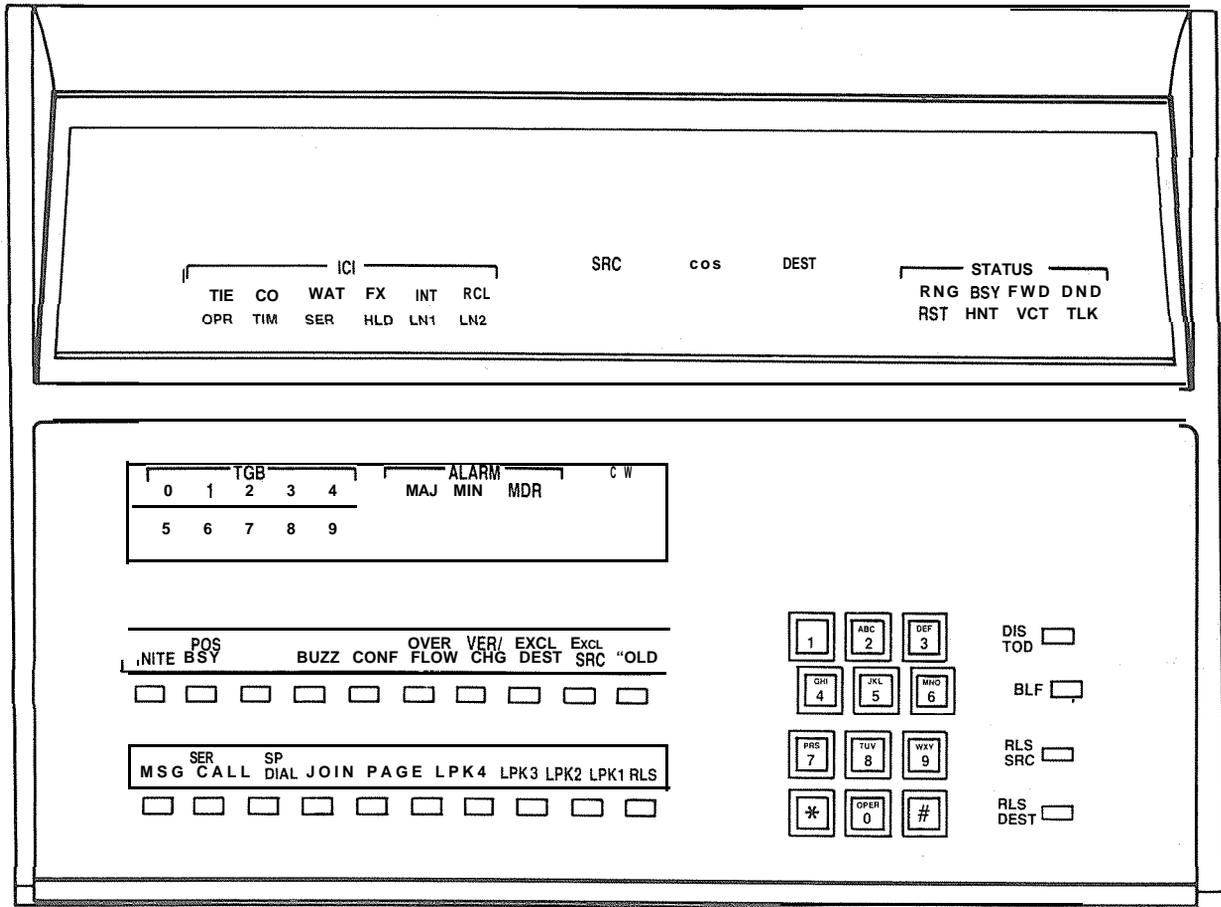

FIGURE 8 — ATTENDANT CONSOLE
03.21 The PERCEPTION attendant console is the switched-loop type, and its housing is constructed of impact resistant, off-white plastic. The layout of the console display panel and faceplate is shown in Figure 8. A volume control for the console tone buzzer is located on the rear of the console behind the busy lamp panel. Modular jacks for the handset/headset are provided on both sides of the console. Also, the handset cradle can be mounted on either side of the console. The console display panel includes a Busy Lamp Field and the following displays: Incoming Call